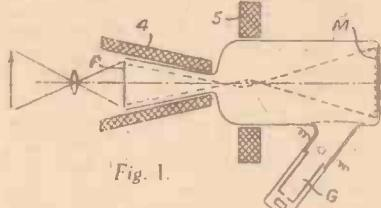

Fig. 1.
An electron image from a photo cathode P, Fig. 1, is focused on to a mosaic electrode M by a frusto-conical electromagnet 4, which reduces the composite beam from the
**T**HE value of the resistance in question is 15 ohms. A black dot on a resistance indicates .0, or, in other words, nothing. Therefore, reading the resistance in the standard manner, the body indicates the figure 1 and the tip indicates 5. Adding .0 does not, of course, increase the value, although if you wish to place the value down in a strictly mathematical form you would write it 15.0.